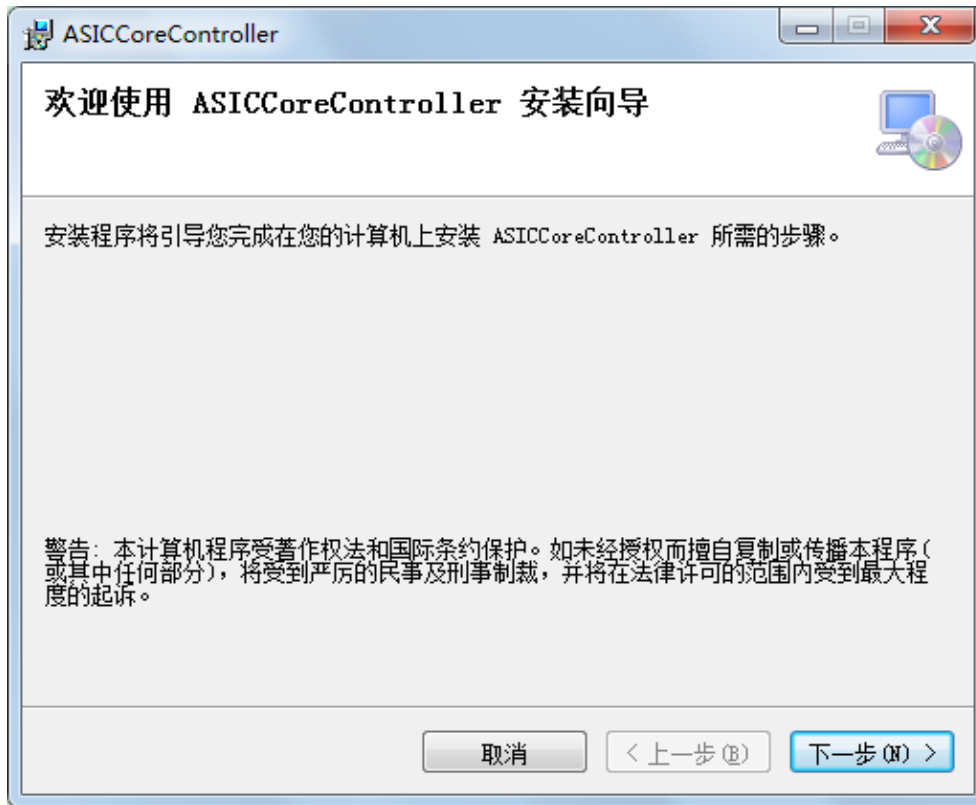

Fig. 4-1 Software installation interface 1
1. Firstly, double-click the application installation file  setup.exe for installation to pop up an installation window, click the button "Next" for installation at the next step, as shown in Fig. 4-1.